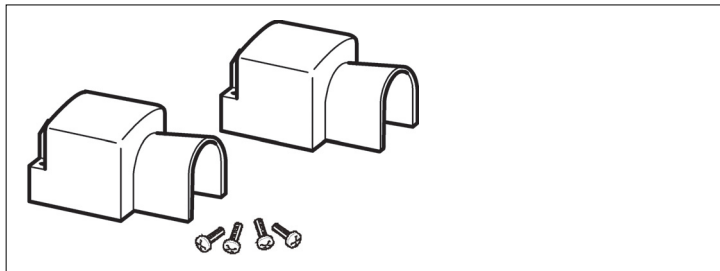

Figure 9 DC Terminal Covers
9. To protect the DC terminals, attach the DC terminal covers (Figure 9) to the inverter/charger, using the screws provided.